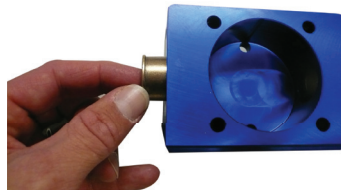

Figure 5
6. Place one guide at each end of crankcase. Guides should be loose and easily slide in. Figure 5 shows placing guides into crankcase.